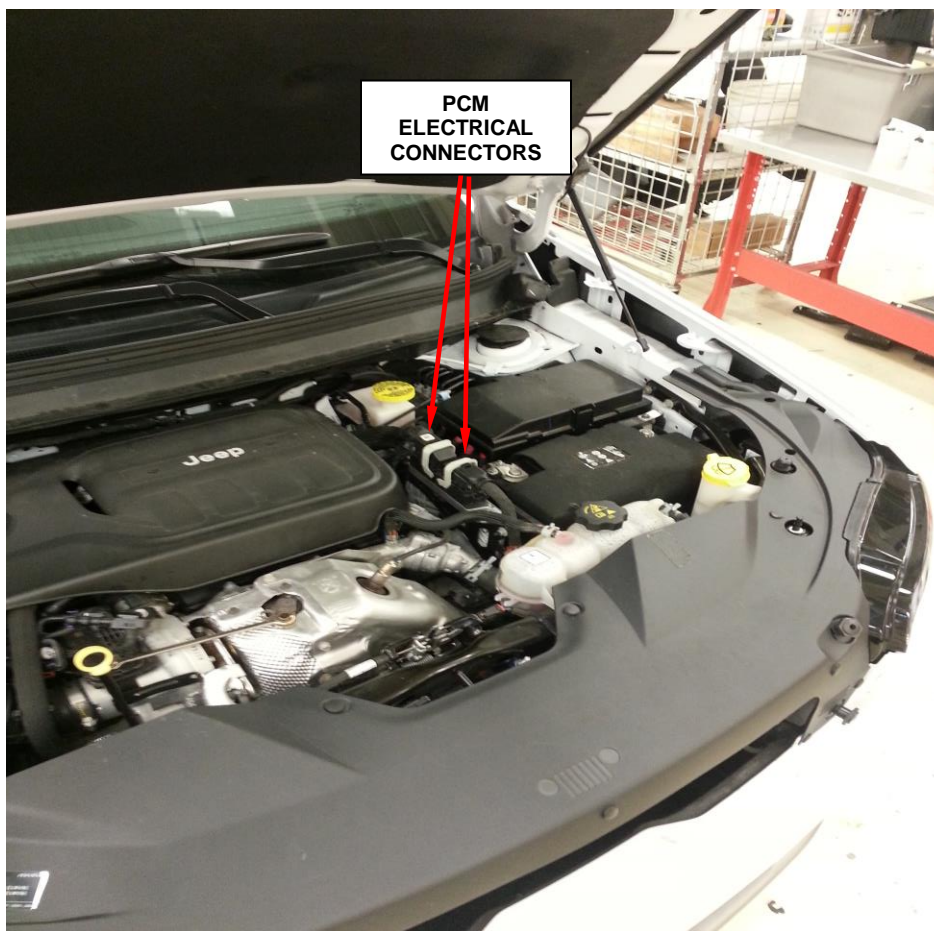

Figure 3 – PCM Location
3. Disconnect the PCM electrical connectors (Figure 3).